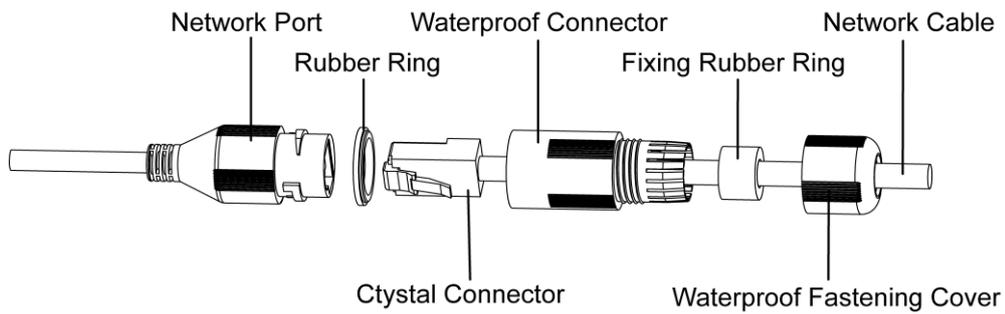

Figure 2-3
Step 4 (Optional) Install waterproof connector for network port, which is shown in Figure 2-3.